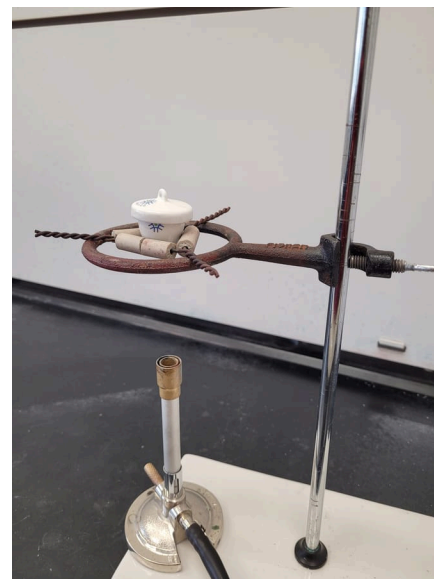

Figure 6.1.1: Thermal dehydration heating setup.
3. Set up a Bunsen burner, ring stand, iron ring, and clay triangle as shown in Figure 6.1.1. Place the crucible containing the sample onto the clay triangle and begin heating gently with a small burner flame.
4. **CRITICAL:** Do **not overheat** the sample, or the copper chloride salt will decompose into black copper(II) oxide. Move the burner base back and forth continuously to distribute heat evenly.